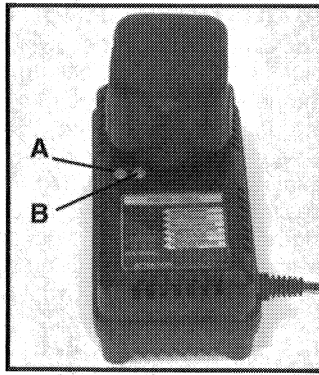

Fig. 5
Make sure power circuit voltage is the same as that shown on the charger specification plate. Connect charger to power source. The green light (A) Fig. 5, should begin to flash. This indicates the charger is ready to begin charging.
Position the battery pack to the charger, aligning the tongue on the battery pack with the slot in the charger. Insert battery pack into charger (see Fig. 5). Press lightly on the battery pack to seat it into the charger.
The green light (A) Fig. 5, should begin to glow continuously, indicating that the battery pack is receiving a "Fast Charge" (if the green light does not glow continuously, or if the red light (B) Fig. 5, also begins to flash: see DIAGNOSTICS). After approximately one hour, the "Fast Charge" indicator light should go out indicating that the battery pack is fully charged and that the charger is now in a "Trickle Charge" mode. The battery pack can be left on "Trickle Charge" until you are ready to use it.
The Model 8621 Charger is equipped with a diagnostic system that automatically checks the battery pack each time a pack is inserted into the charger. If no problems are found, the charger will automatically switch to "Fast Charge" mode as described in NORMAL CHARGING. If a problem is found, it will be indicated by the charger indicator lights (see Fig. 5), as follows: